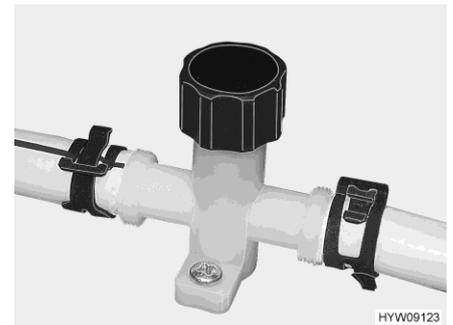
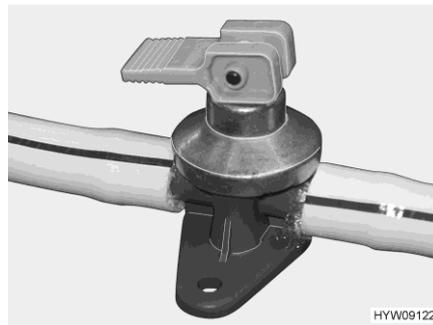

Fig. 200 Drain cock (water pipe)
Fig. 201 Drain cock (Alde boiler)
- Close drain cocks (Fig. 201 and Fig. 200). To do so, close the caps by turning them in a clockwise direction and set the rocking lever in a horizontal position. The position of the safety/drainage valve and the drain cocks is specified in the section 10.7 at the end of this chapter.